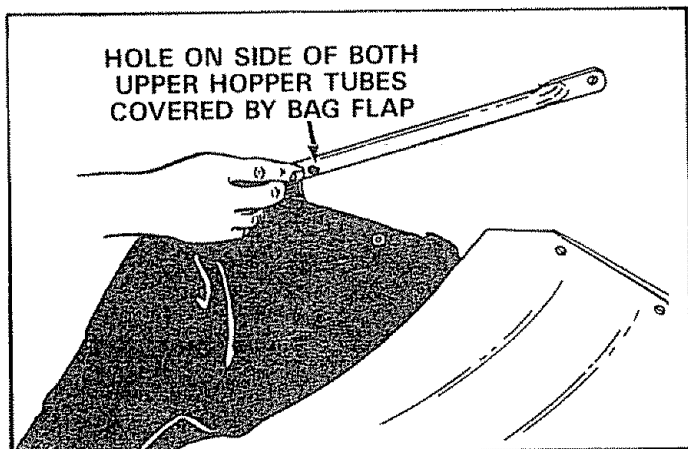

FIGURE 10
2. Locate the hole on side of both upper hopper tubes. See figure 10. The bag will require piercing at these holes in a later step. Refer to step 12 on page 8.